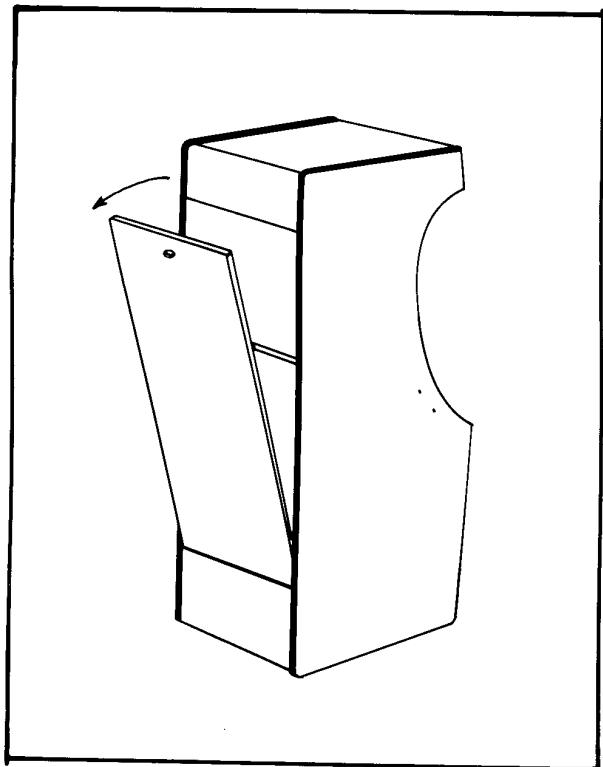

Figure 1-3 Rear Access Panel
Figure 1-3 Speed Freak Control Panel.....	1-4
- (a) Remove the rear access panel with the appropriate packaged key (refer to Figure 1-3).